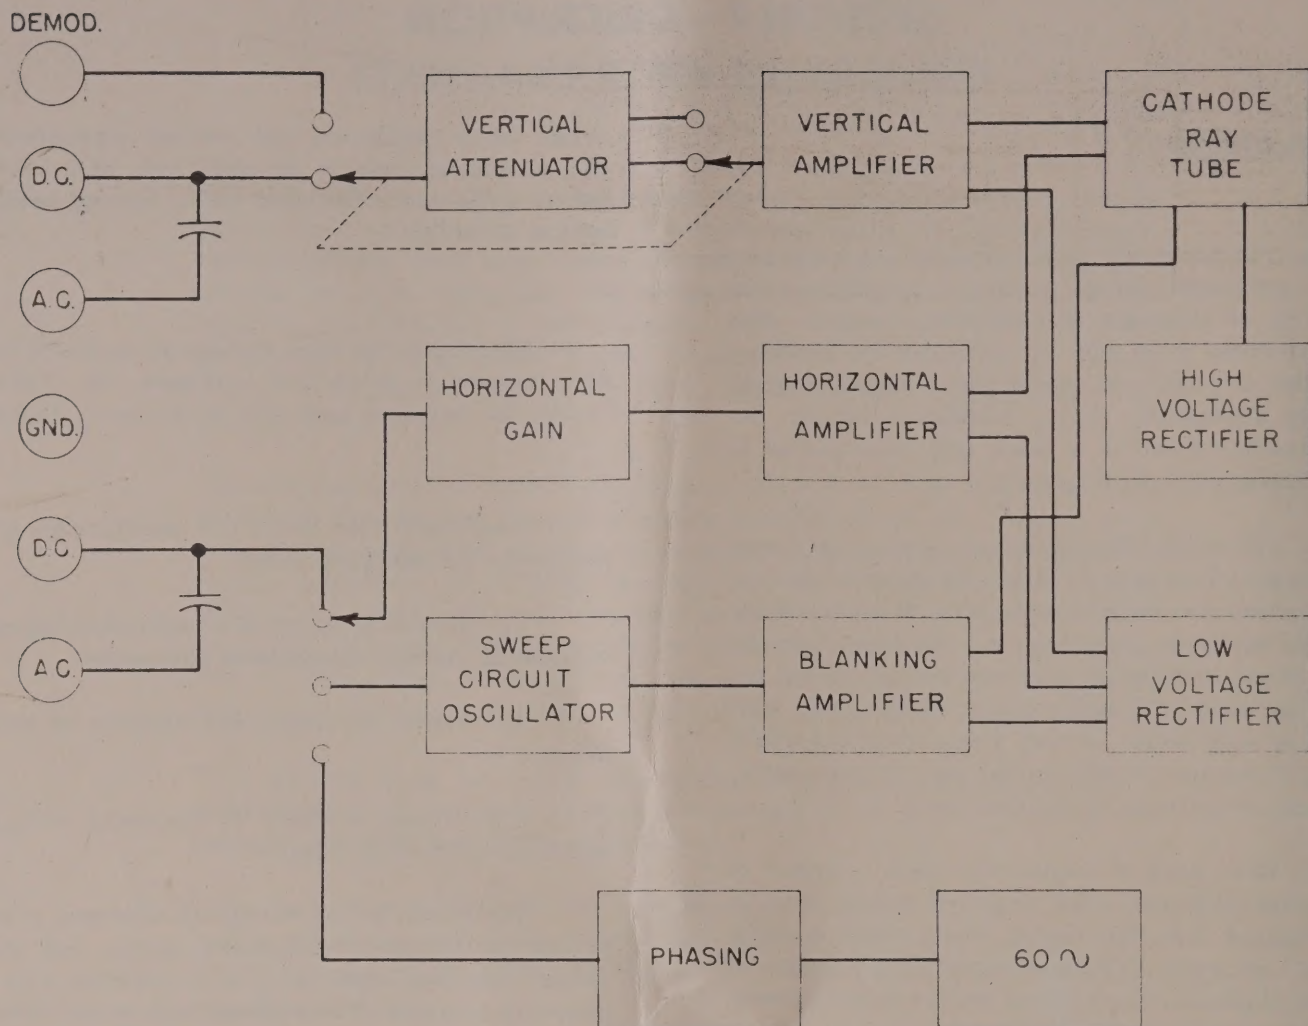

FIGURE 1.2 - BASIC CIRCUITS, IN BLOCK FORM
b. Electrical--The basic circuits of the Model 670 are illustrated in block form in Figure 1.2. These circuits are explained more fully in Section 2, Theory.
(1) Provide a means of visually studying and interpreting electric and magnetic phenomena.
(2) Permit the study and analysis of wave forms.
(3) Provide a means of measuring voltages and frequencies of AC signals.
(4) Permit visual testing and alignment of amplitude and frequency modulated receivers, and television equipment when used in conjunction with a frequency modulated RF oscillator such as the Hickok 610A or 288X signal generators.
(5) Permit measurement of hum, gain and distortion in audio amplifiers.